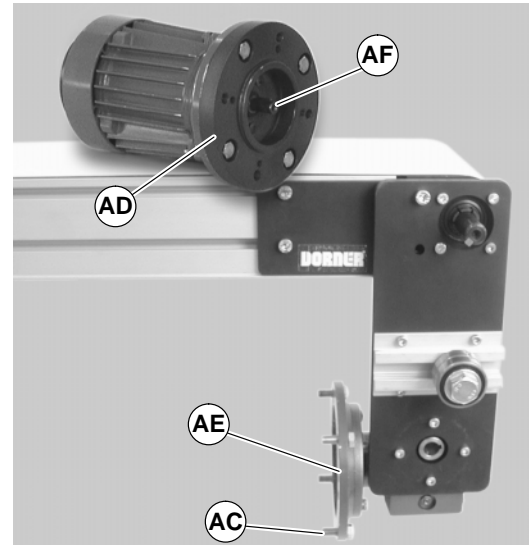

Figure 25
- Remove four (4) screws (AC of Figure 25). Detach motor (AD) from gear reducer (AE). Retain motor output shaft key (AF).